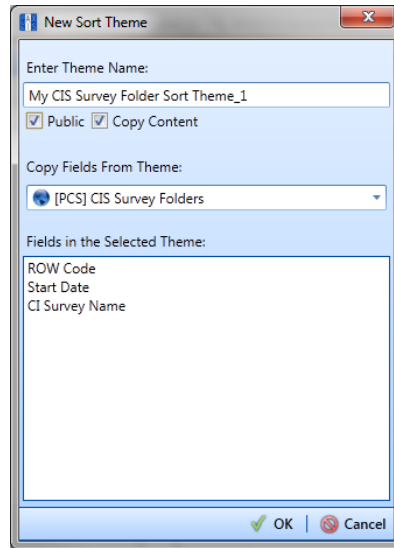

Figure 6-15. New Sort Theme
- 6 Click the  **Add** button to open the *New Sort Theme* dialog box (Figure 6-15).